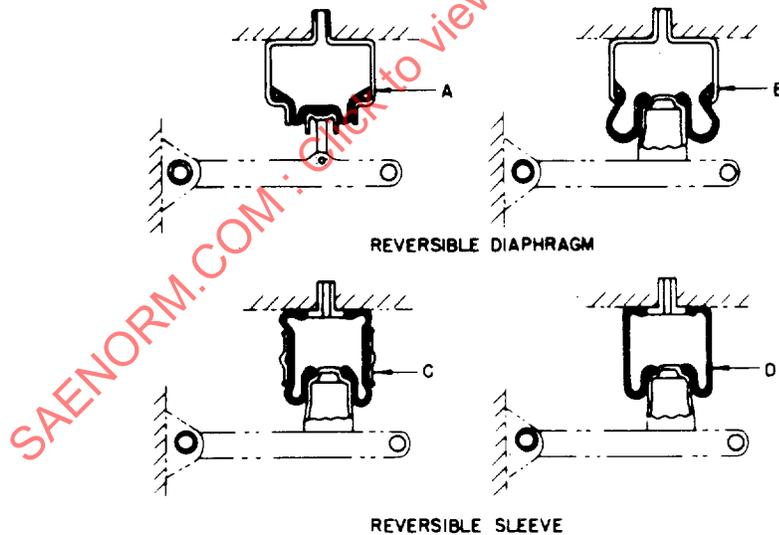

FIGURE 1—PISTON TYPE PNEUMATIC SPRINGS
4.3 **External Support**—(See Figure 1, A, B, C, D.) A component of some pneumatic springs which controls the outside configuration of the flexible member, thereby affecting the shape of the load-deflection curve. The external support may be either fixed (A, B) or floating (C) in relation to one of the beads.
5.1 **Piston Type**—This type uses a piston which is attached to the inner bead of a reversible flexible member. See Figure 1.
5.1.1 **REVERSIBLE DIAPHRAGM**—In this type, the piston bead usually passes through the opposite bead of the flexible member. See Figure 1, A and B.
5.1.2 **REVERSIBLE SLEEVE**—In this type, the piston bead travels within the flexible member and does not pass through the opposite bead. See Figure 1, C and D.